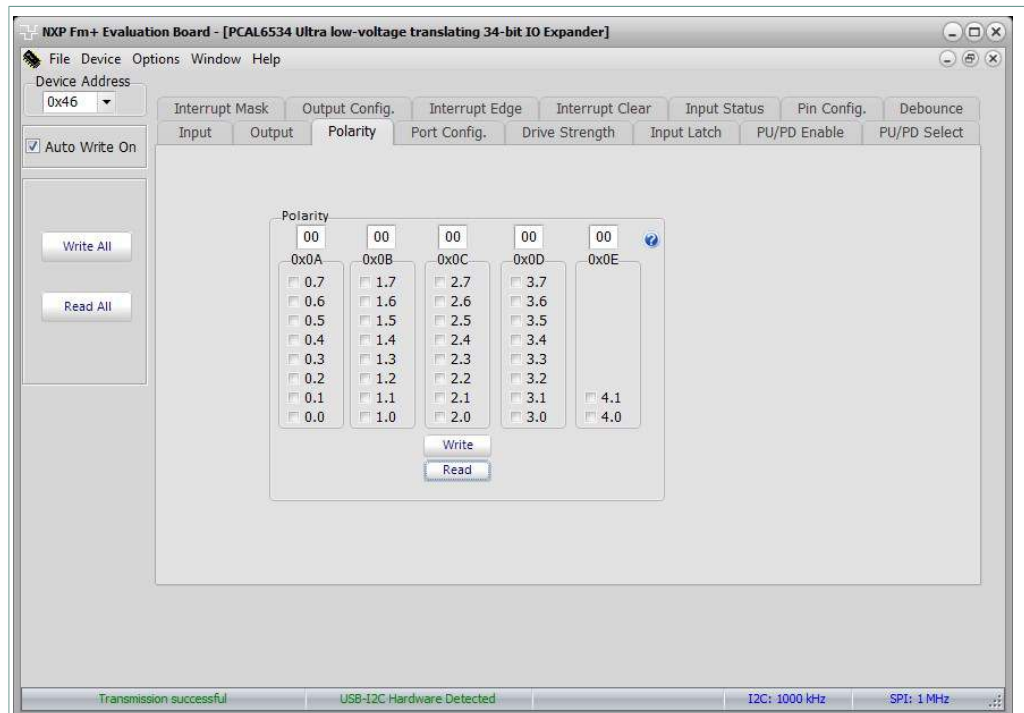

Figure 12. Device configuration screen for registers 0A-0E hex
4. Polarity registers read or write are shown in Figure 12.